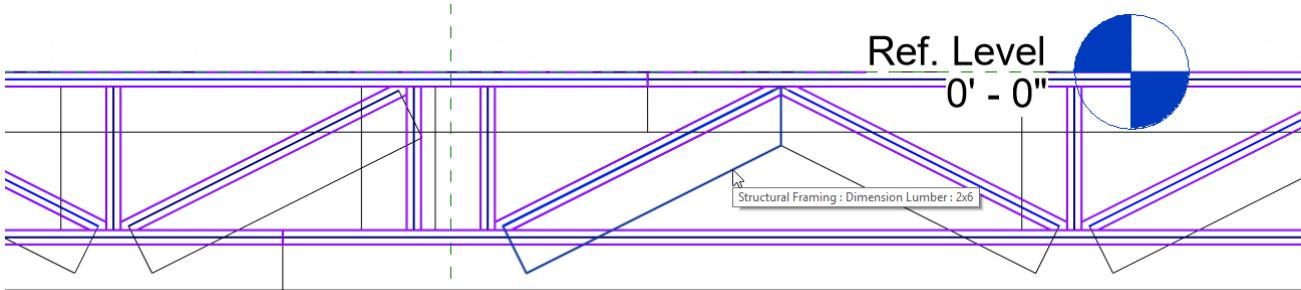

Figure 87
14. Position your windows so you can see the Revit window to observe the results (see Figure 87).